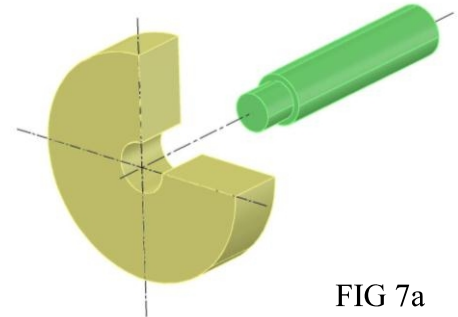

FIG 7a
- Figure 7a gives a vague indication of your solution.